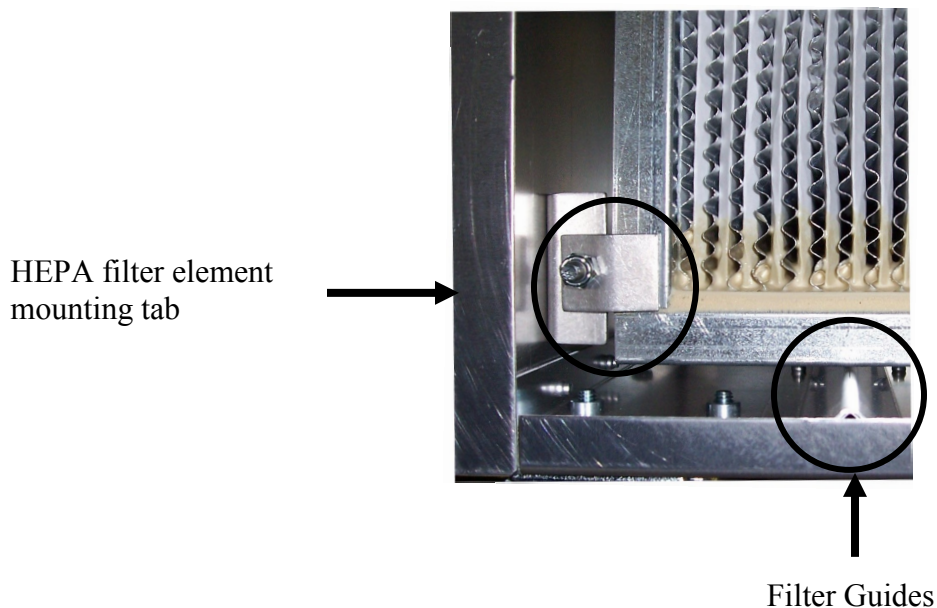

Figure 1
**Unpacking:** Visually inspect the unit for damage. Remove the primary/ secondary filter and ensure that the HEPA filter has not been dislodged during shipping. The HEPA filter should be sitting on the filter guides and the filter tabs that hold the HEPA filter in place should be tight. See Figure 1.